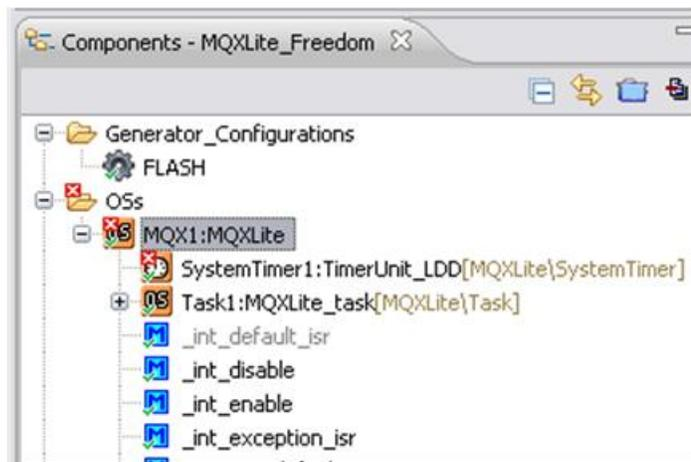

Figure 21. MQXLite subcomponents
7. The MQXLite default configuration includes 2 basic subcomponents; a system tick and at least one task. By expanding the “MQX1:MQXLite” it is possible to see that the two first subcomponents are the ones mentioned before. Figure 21 testifies these facts.
8. The first MQXLite subcomponent is the “SystemTimer1:TimerUnit_LDD”. This is the heart of the system. The system tick is being generated with the “SystemTimer1:TimerUnit_LDD”. Figure 21 shows that the “SystemTimer1:TimerUnit_LDD” subcomponent is marked with errors. This is because it is necessary to provide configure information for the clocks. This way the timer can configure the module correctly. Figure 22 shows the values to be updated in the “Component Inspector” tab when a click is given in the “SystemTimer1:TimerUnit_LDD” subcomponent.